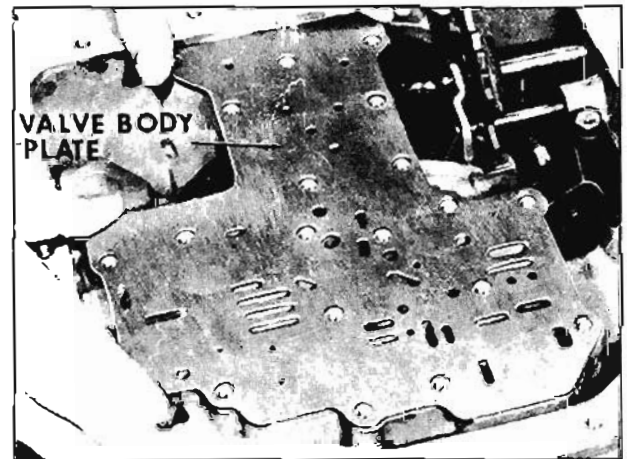

Fig. 6-458 Installing Valve Body Plate
2. Install valve body plate. (Fig. 6-458)